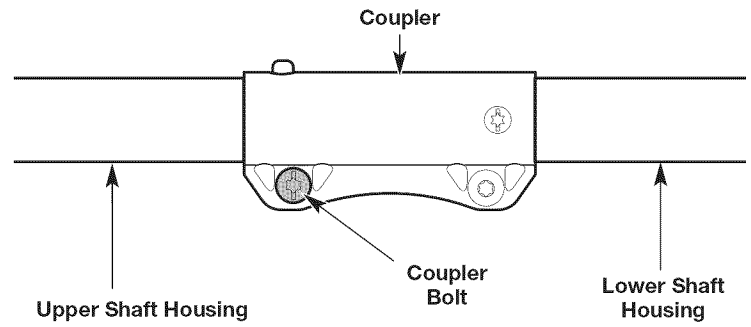

Fig. 8
3. Loosen the coupler bolt with a flat-head screwdriver (Fig. 8).
7. Tighten the coupler bolt securely with a flat-head screwdriver (Fig. 8).